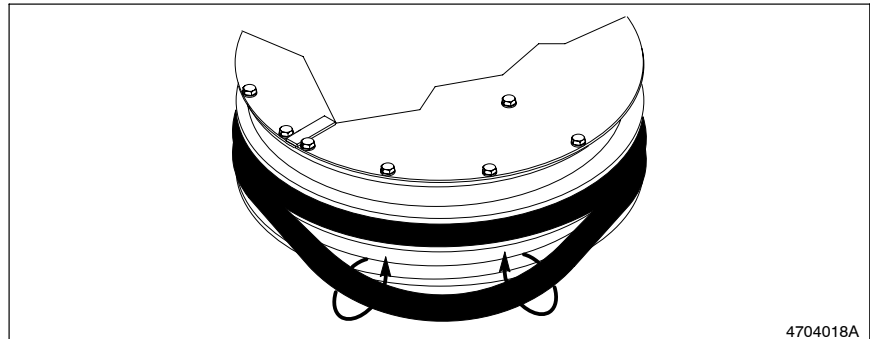

Fig. 7-4 Installing TES Platen Seals
8. See Figure 7-4. (TES seals) Use tire irons or similar tools to aid in stretching the seal over the platen and into the upper seal groove. Use an electric heat gun and tools as required until the seal seats in its groove. Be careful not to damage the PTFE covering around the seal.